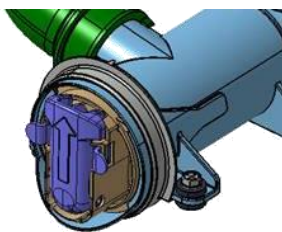

Fig. 1
- ↪ For machines manufactured with the new filter dial: open the hatch at the bottom of the front panel, and the filter dial will appear as shown in fig. 1.